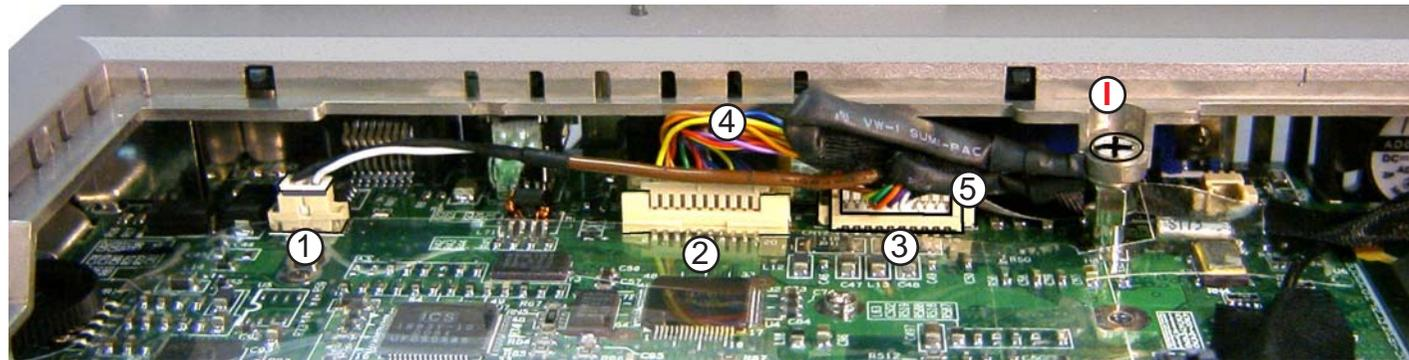

figure 2-12
1. Remove screw (I), the LCD panel cable and the inverter cable. When reinstalling make sure to place the LCD panel cable on top of the case and the inverter cable on the inside of the case just above the hex nut (figure 2-12).